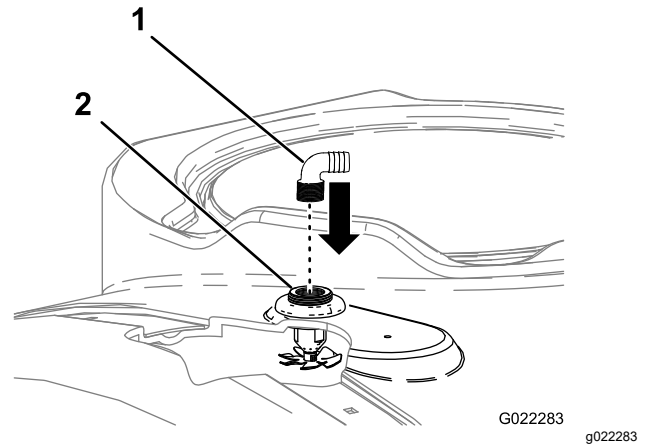

Figure 19
5. Install a 90° barbed fitting (3/4 inch NPT x 3/4 inch) onto each of the threaded openings of the rinse-nozzle bulkheads (Figure 19).